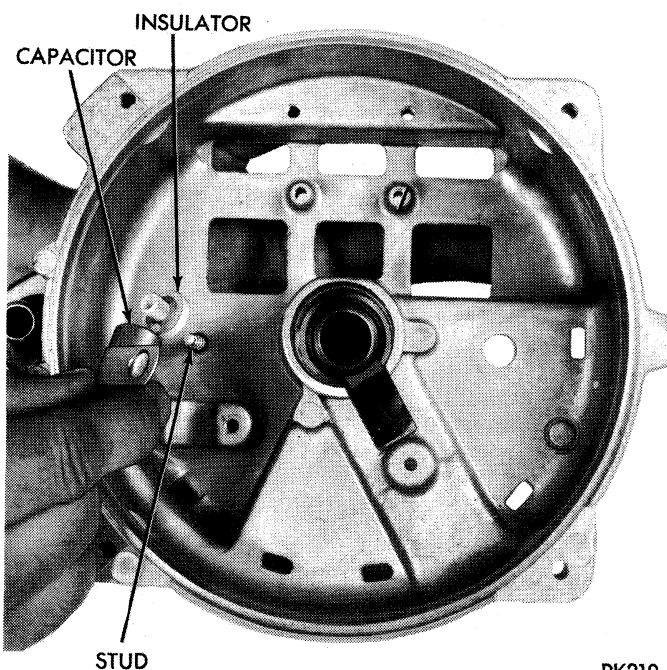

Fig. 62—Installing Capacitor
(5) Position insulator and then capacitor on positive heat sink mounting stud, install capacitor mounting screw and tighten to 30-40 in.-lbs. (Fig. 62).